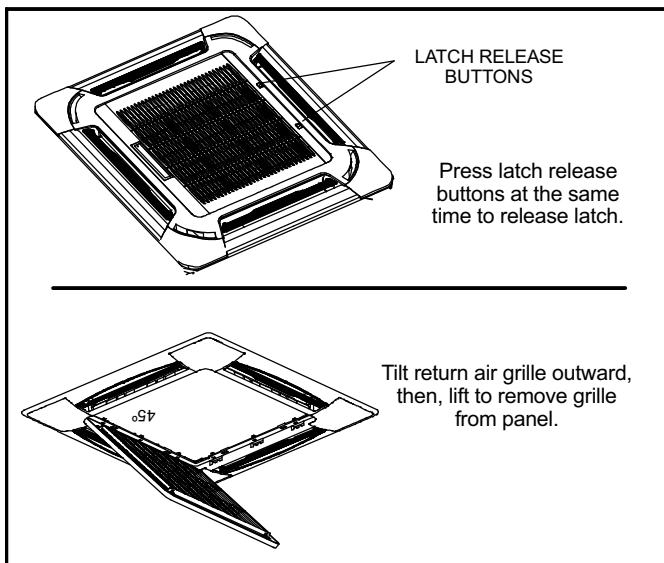

Figure 13. Remove Return Air Grille
- 2 - Press the two grille latch release buttons at the same time to release the grille. See figure 13. Tilt the return air grille outward at a 45° angle and lift the grille away from the panel. Carefully place the return air grille off to the side.